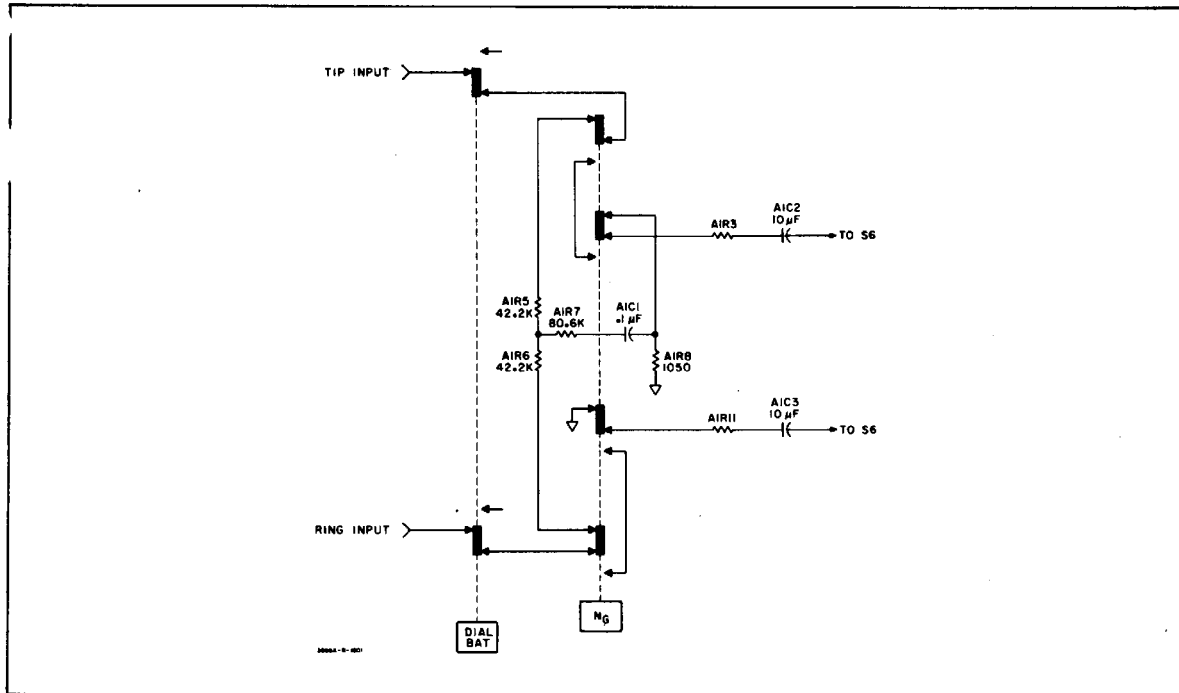

Figure 4-3. Simplified NG Function
- c. Ng: (See Figure 4-3) The Ng pushbutton connects a 40dB attenuator across the balanced input terminals for longitudinal measurements. This attenuator consists of A1R5 thru A1R8 and A1C1. The output is taken from the junction of A1C1 and A1R8. This output is referenced to ground and applied to the voice frequency transformer A1T2.